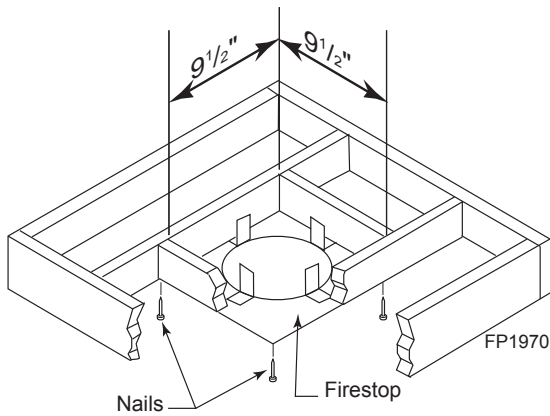

Figure 32 -
1. Cut a 9½" (241 mm) square hole in the ceiling using the locating hole as a center point. The opening should be framed to 9½" x 9½" (241 x 241 mm) inside dimensions as shown in *Figure 32* using framing lumber the same size as the ceiling joist. If the area above the ceiling is an insulated ceiling or a room, nail firestop from the top side. This prevents loose insulation from falling into the required clearance space. *Figure 31*. Otherwise, install firestop below the framed hole. *Figure 32*
2. Cut the hole 1/8" larger than the support box outline. *Figure 32*
3. Lower the support box through the hole in the roof until the bottom of the box extends at least 2" below the ceiling. *Figure 32.* Align the support box vertically and horizontally using a level. Temporarily tack the support box in place through the inside walls and into the roof sheathing.